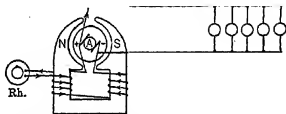

Fig. 194. Shunt generator supplying incandescent lamps with current.
**102. Shunt Generator.** When the fields are excited by a current shunted around the main circuit, as in Figs. 194 and 195, many turns of fine copper wire are used. In this case it is not desirable to have a large current going through the coils, because every bit thus used is really stolen from current available for the outside circuit. The resistance of the coils is therefore high. The necessary number of ampere-turns are obtained by the large number of turns which make up for the small current.
**103. Building Up of Shunt Field.** Even when no current flows through the field coils of a machine there is always a small amount of magnetism in the field. So when we start up a shunt generator, the armature conductors are revolving in a very weak field. But as the wires of the armature cut through this weak field, a small voltage is produced across the brushes. Now, since the field coils are connected directly across the brushes (see Figs. 194 and 195), a small current will be sent through these windings. This will slightly increase the strength of the magnetic field. As the armature now revolves in this increased field, the voltage across the brushes will be raised a little, which in turn will send a larger current through the field coils, which still further increases the magnetic field, raises the voltage, and increases the field current. This is called the **building up** process of the field, and it continues until the fields have enough magnetism to produce full voltage, the value of which depends upon the speed of the armature and the resistance of the field circuit. This process usually takes from 10 to 30 seconds. After the voltage has become constant, it can be controlled further and set to any definite value within the limits of the machine, by means of an adjustable resistance in series with the field. If the voltage is too high, it can be lowered by increasing the resistance, thus lowering the field current, which weakens the magnetic field and therefore lowers the voltage produced in the armature conductors. We can also raise the voltage by increasing the speed of the armature, or lower the voltage by decreasing the speed of the armature. Then the voltage across the brushes remains constant and is ready to deliver current to the outside line.